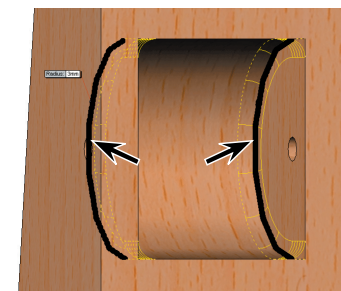

Fig. 18
Step 7. Use right arrow on keyboard to rotate view and click the other inside arc edge, **Fig. 18** and click OK  in the Property Manager.